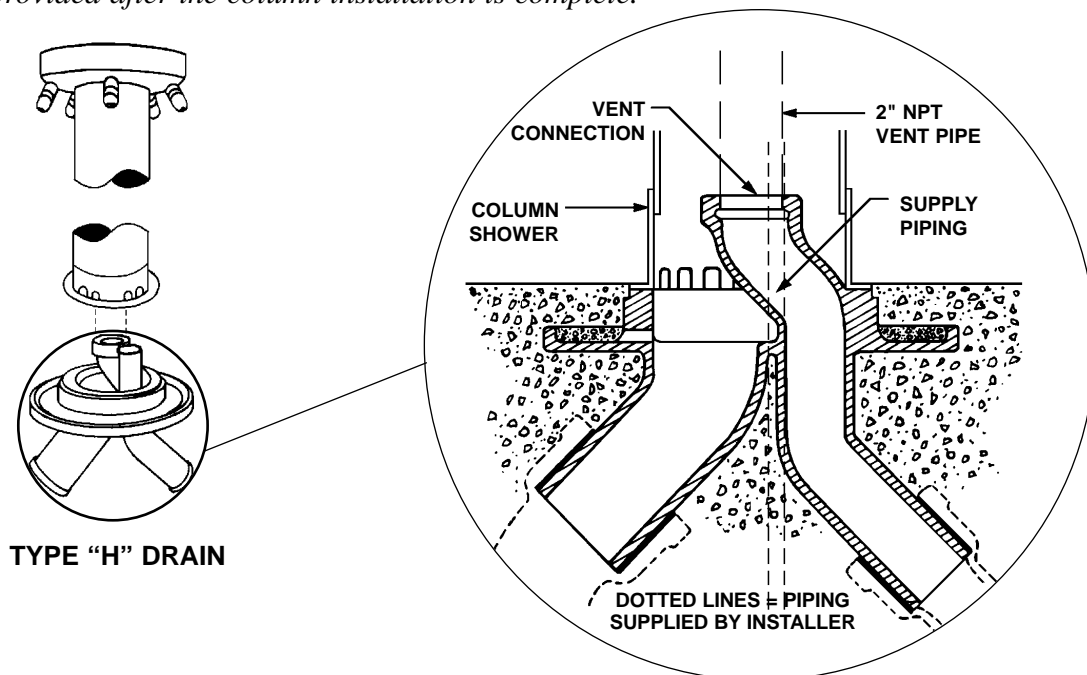

Figure 2c
4. Position the shower over the drain and screw the 2" NPT vent pipe into the vent connection (see Figure 2c).
2. Through the access opening, connect the water supplies to the shower's 3/4" copper tubing as shown in Figure 2c (piping supplied by installer).